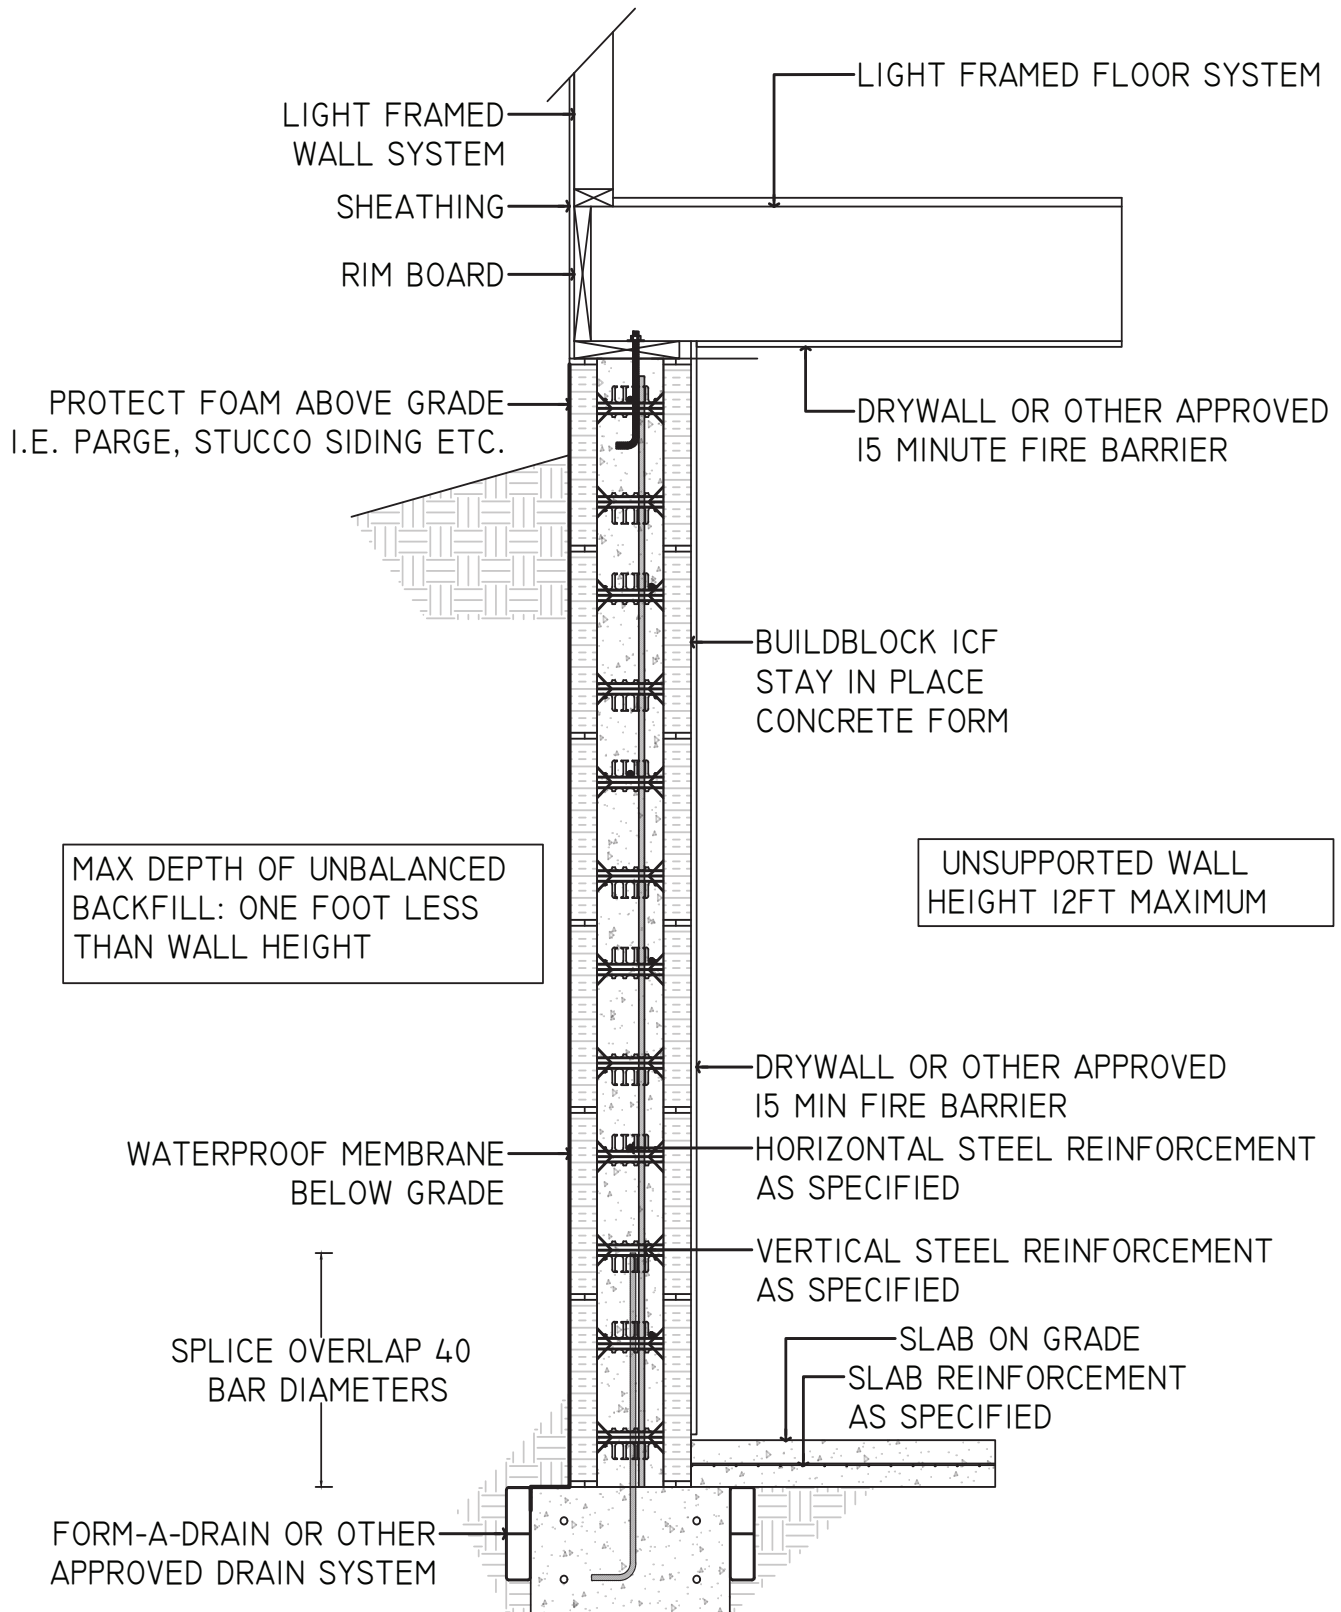

FIGURE 5.4A TYPICAL BELOW GRADE BUILDBLOCK WALL SECTION CUT THROUGH FLAT WALL OR VERTICAL CORE OF SCREEN GRID WALL. SUPPORTING LIGHT FRAMED WALL.
- Determine the unsupported wall height. See Figures 5.4A and 5.4B for Typical Below Grade BuildBlock Wall